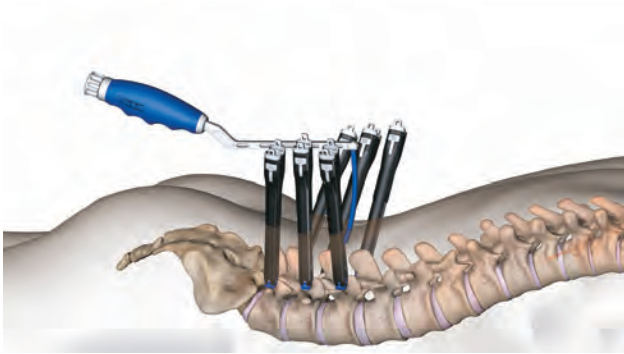

Figure 19
- Align the rod inserter to the superior end of the most cephalad screw tower so the rod is in-line with the screw tower (Figure 19).